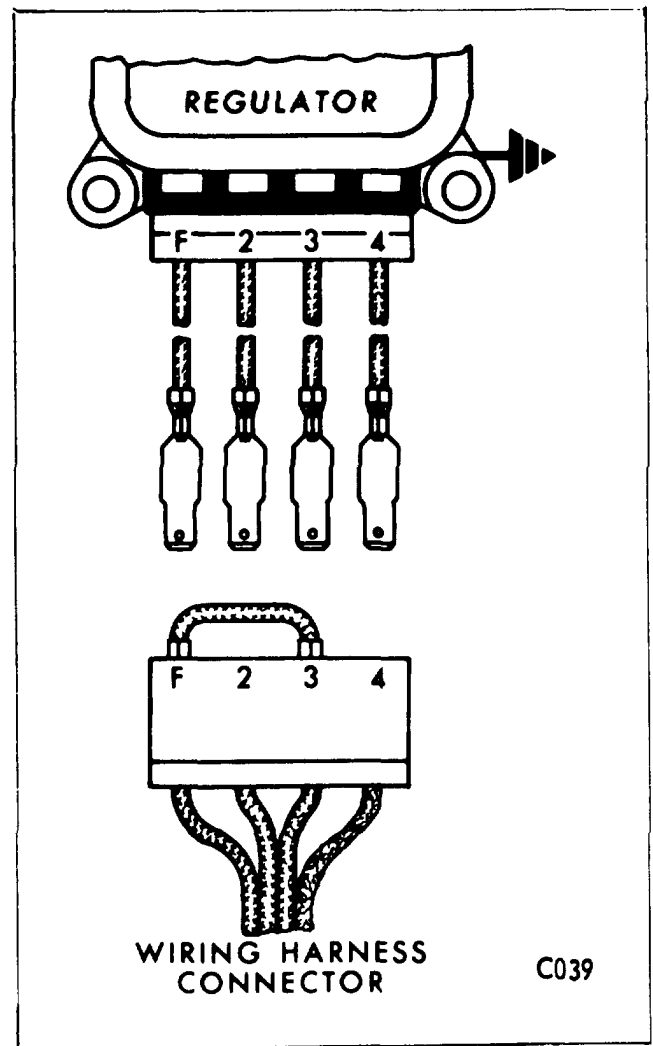

Figure 30.
- b. Make connections to the adapter as shown in Figure 30.